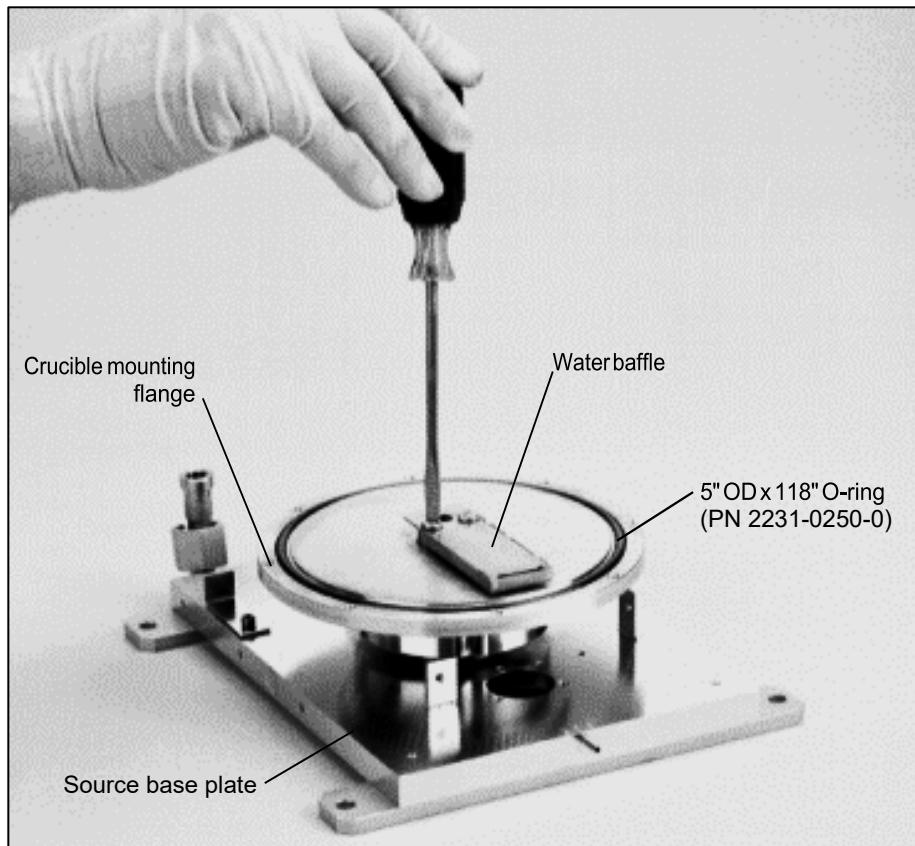

Figure 5-12. Removing the Water Baffle
Step 17: Remove the two 8-32 \times 1/4-in. screws that secure the water baffle to the pivot shaft and remove the water baffle (see Figure 5-12).
Step 10: Secure the water baffle to the top of the pivot shaft, using the pan-head screws provided (see Figure 5-12).